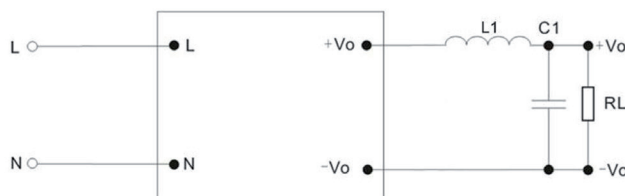

Figure 2
6. 5ACDE1W_03S4, 5ACDE1W_05S4 need to use peripheral circuits to reduce ripple. The specific peripheral parameters are shown in Figure 2.